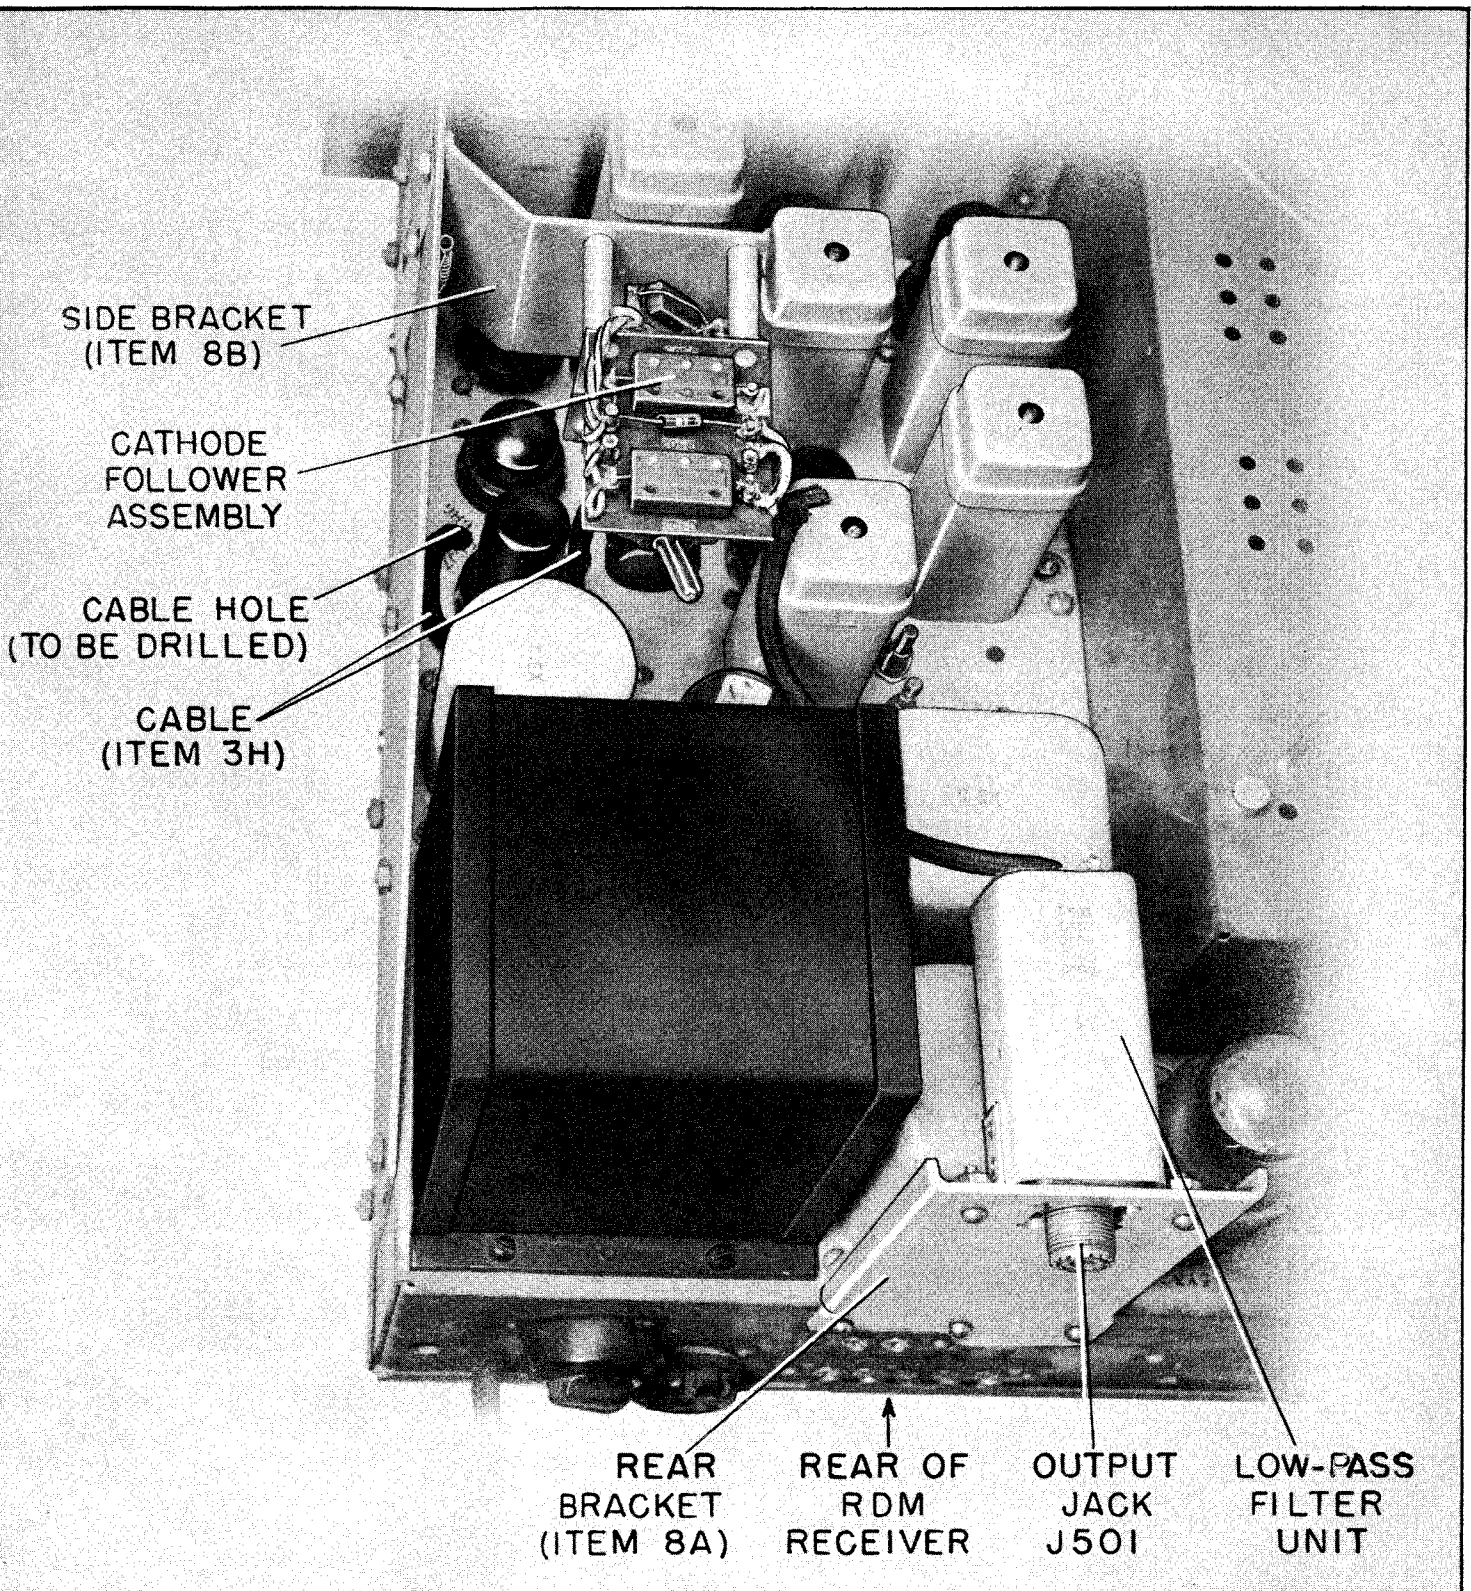
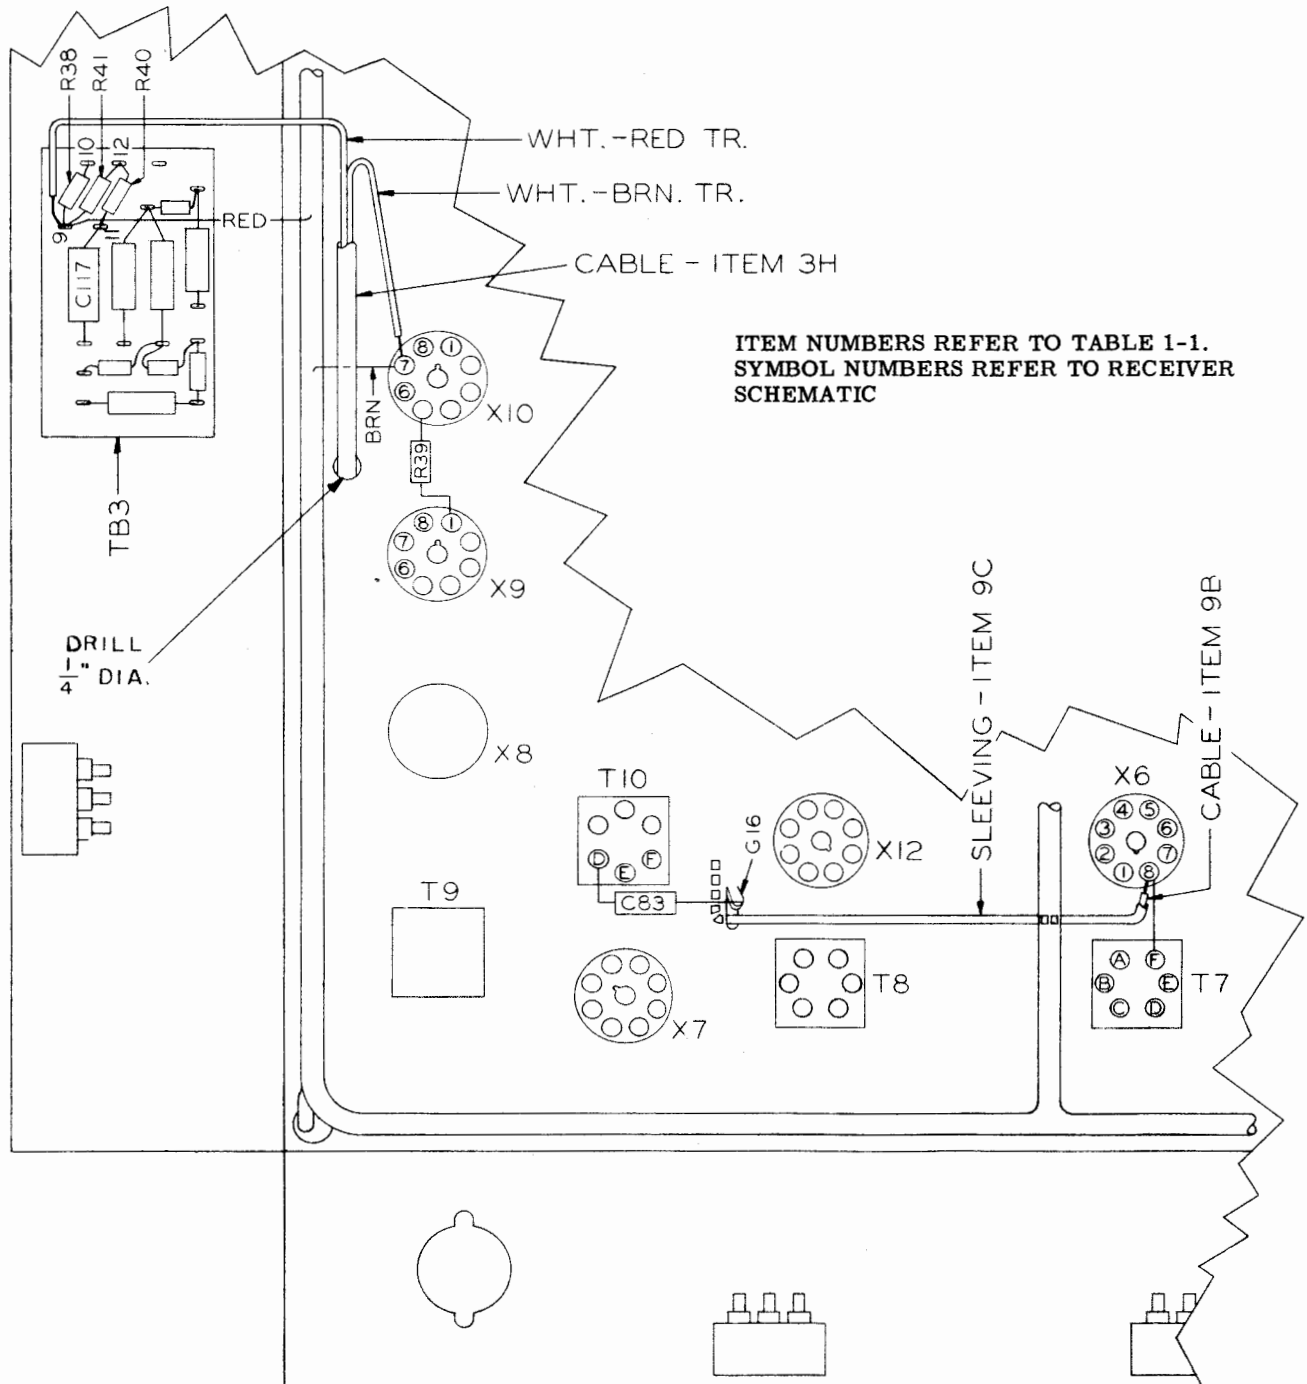

Figure 3-7. Receiver Coupling Kit Installation on RDM Receiver, Top View
Figure 3-8. Receiver Coupling Kit Installation on RDM Receiver, Wiring Side of Chassis
(2) Mark the positions of the new holes by means of a center punch.
(3) Drill the new holes with a 0.187-inch drill.
(4) Drill a 1/4-inch hole close to the right apron between sockets X9 and X10, as shown on Figure 3-8.
g. Crimp and solder center conductor of cable (item 9A) to terminal A of Coil Assembly. Solder shield pigtail to terminal B.
b. Solder center conductor at other end of above cable to terminal 1 of TB501 on Tube Shelf Assembly. See Figure 3-7.
i. Install power cable (item 3H) as follows:
(1) At longer lead end, strip back the braid six inches.
(2) Crimp and solder red-tracer lead at other end of cable to terminal 3 of TB501 on the Tube Shelf.
(3) Crimp and solder brown-tracer lead to terminal 2 of TB501 on Tube Shelf.
(4) Push leads through 1/4-inch hole near X9 and X10.
(5) Crimp and solder brown-tracer lead to pin 7 of X10. See Figure 3-8.
(6) Crimp and solder red-tracer lead to terminal 9 of TB3. See Figure 3-8.
j. Install signal cable (item 9B) as follows:
(2) Slide sleeving (item 9C) over cable.
(3) Put cable through hole made by punching as shown at G16 in Figures 3-8 and 3-9.
(4) Crimp and solder cable to pin 8 of X6.